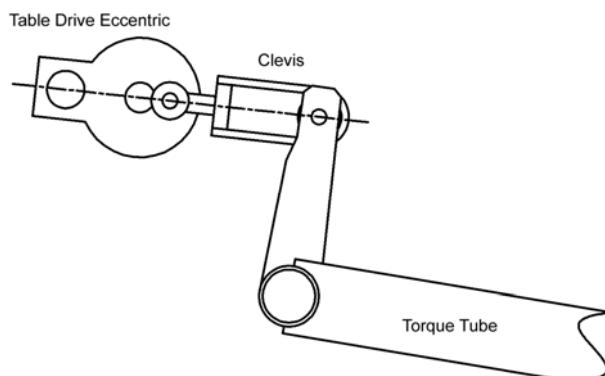

Figure 4.2-4
3. Use the Hand crank to align the Table Drive Shaft, Eccentric Stud, and Clevis Bolt to get the Table exactly at Bottom Dead Center (see Figure 4.2-4).